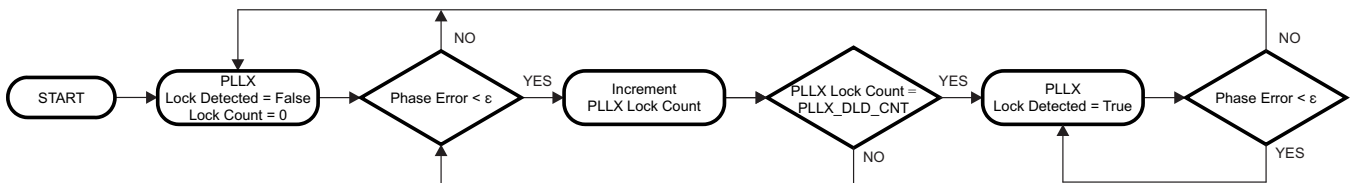

Figure 16. Digital Lock Detect Flowchart
Both PLL1 and PLL2 support digital lock detect. Digital lock detect compares the phase between the reference path (R) and the feedback path (N) of the PLL. When the time error, which is phase error, between the two signals is less than a specified window size ( $\epsilon$ ) a lock detect count increments. When the lock detect count reaches a user specified value, PLL1\_DLD\_CNT or PLL2\_DLD\_CNT, lock detect is asserted true. Once digital lock detect is true, a single phase comparison outside the specified window will cause digital lock detect to be asserted false. This is illustrated in Figure 16.